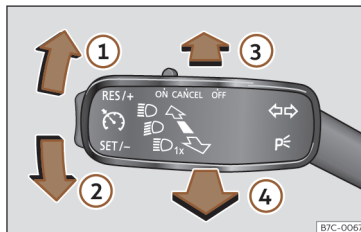

Fig. 89 Turn signal and main beam lever.
- From the base position, press the turn signal and main beam headlights lever forwards >>> **Fig. 89 ③**
- **OR:** while the main beam is on, pull the turn signal light and main beam headlights lever forwards >>> **Fig. 89 ④**.